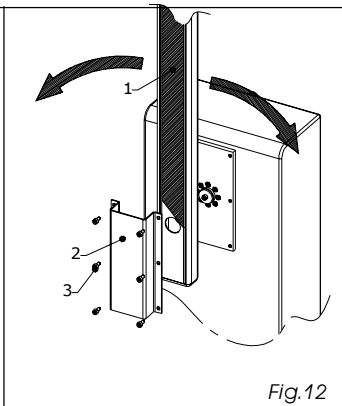

Fig.12
SPIN 6 (Fig.12)
- fit the beam, ref.1 fig.12.
- position the "C" support, ref. 2 fig.12, and tighten the six
supplied screws, ref.3 fig.12.